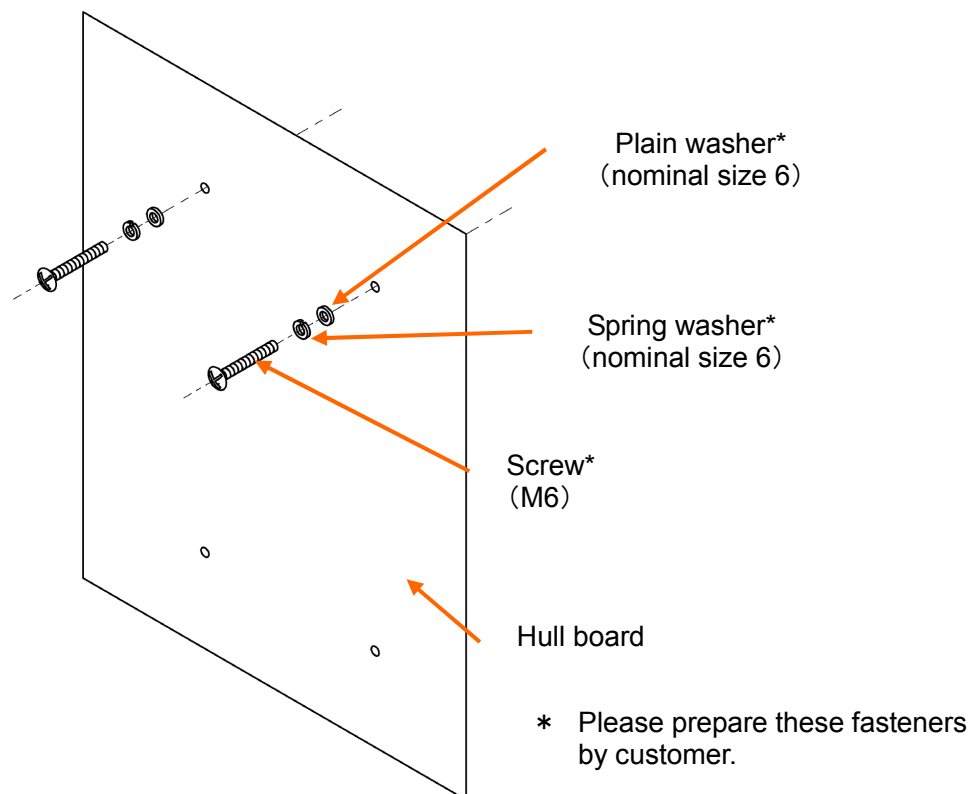

Figure 4-10 Procedure 1 for Motor Driver installation
- ① Attach the plain washer, spring washer and screw to the attachment hole on the upper side of the hull board. Then do not tighten screw completely and open the gap to the extent that the bracket can be inserted between the hull board and the screw head. (Refer to the Figure 4-10)
- ② Hang the Motor Driver on screws which are attached.